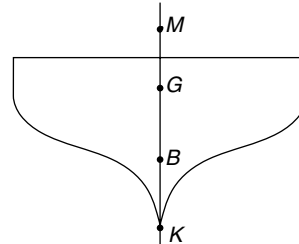

Figure 21.15
- KB = vertical distance of the centre of buoyancy (B) above the keel (K) = 1.2 m (see Figure 21.15),
- BM = distance of the metacentre (M) above the centre of buoyancy = 2.4 m.